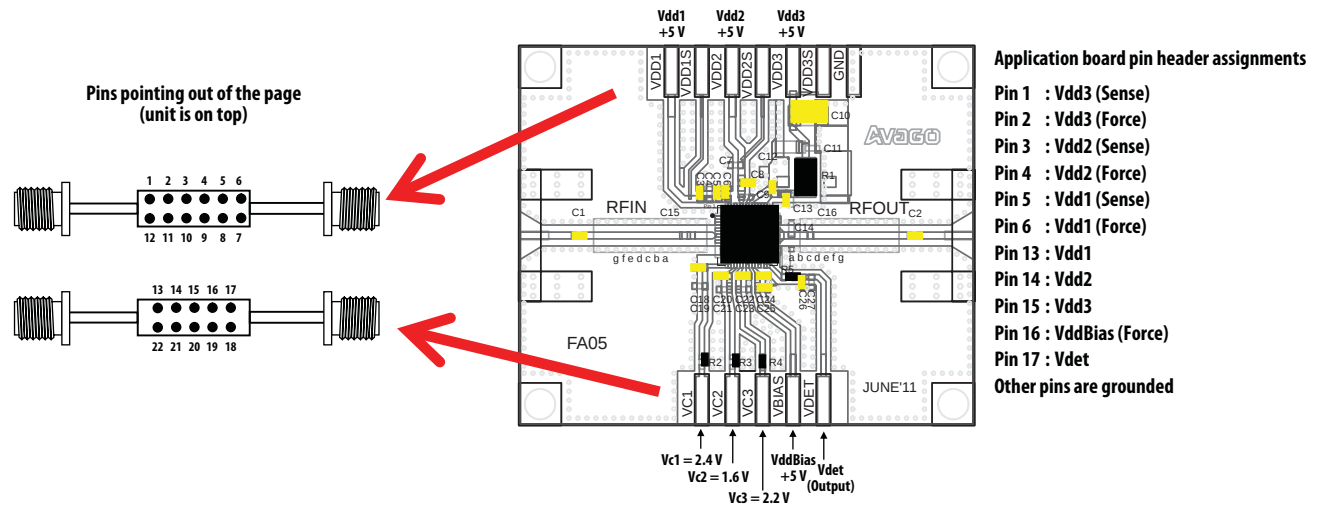

Figure 30. Demonstration board application circuit for MGA-43628 module
3. $I_{dq1} = 60.0\text{mA}$, $I_{dq2} = 110\text{mA}$, $I_{dq3} = 270.0\text{mA}$, $I_{VddBias} = 14.0\text{mA}$. $I_{dq1/2/3}$ are adjusted by voltages to CMOS-compatible control pins Vc1/2/3 respectively. These typical bias currents were obtained with Vc1/2/3 voltages in Figure 30 above. Adjustment of these currents enable optimum bias conditions to be achieved for best linearity and efficiency for a given modulation type.